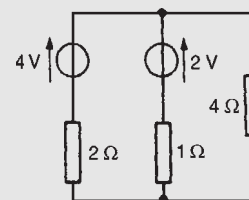

Figure 13.56
Problem 14. Use Norton's theorem to determine the current I flowing in the $4\ \Omega$ resistance shown in Fig. 13.56
- (iv) From the Norton equivalent network shown in Fig. 13.56(b) the current in the 4Ω resistance is given by: